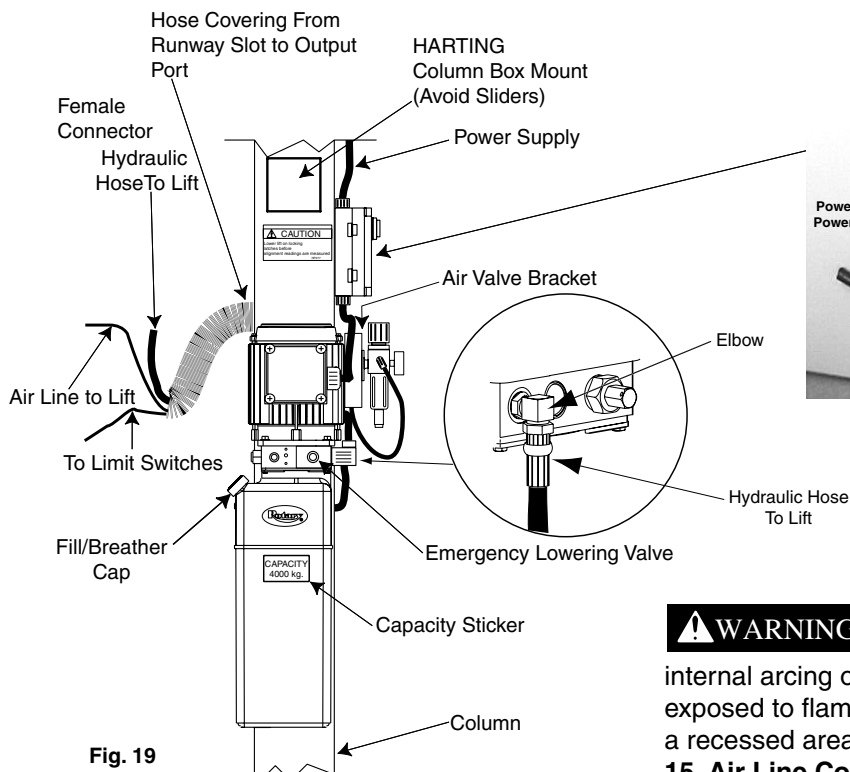

Fig. 19
- C. Position control box on the power unit column, Fig. 19 on adapter plate, with enclosed hardware. Connect limit switch wires to the corresponding location in the control box terminal strip (terminal block 3-TB3). Attach the DIN connector to the 24 VDC lowering valve on the power unit. Run toe guard switch cord up column and attach to the control box (TB4). Connect power unit cord from contactor in control box to leads on the motor.
Have a certified electrician run 230-480 volt, 3 phase 50Hz or 60Hz power supply to control box, Fig. 19 and 20. Size wire for 15 amp. circuit. See Motor Operating Data Table. See wire diagram Fig. 20 and 21, page 12, for control hookup.
Use Dexron III or equivalent ATF. Remove fill / breather cap, Fig. 19. Pour in 10.4 liters (11 quarts) of fluid. Start unit. Raise lift to full rise. Replace fill/breather cap. Fully lower lift. Add more fluid until fluid reaches minimum fill line. Raise lift to full rise, then lower onto latches in preparation for Step 14.
- C. Connect air valve to Reducing Tee, Fig. 19. Cut provided 1/4" air line tubing with sharp blade to length as required. Tubing must be cut square with no burrs.**
- G. Connect reducing Tee to female connector, Fig. 19, using $\frac{3}{8}$ " air line tubing. Attach filter to female connector and connect into existing facility air supply, Fig. 19. Make sure plastic plug is in bottom opening of reducing Tee.